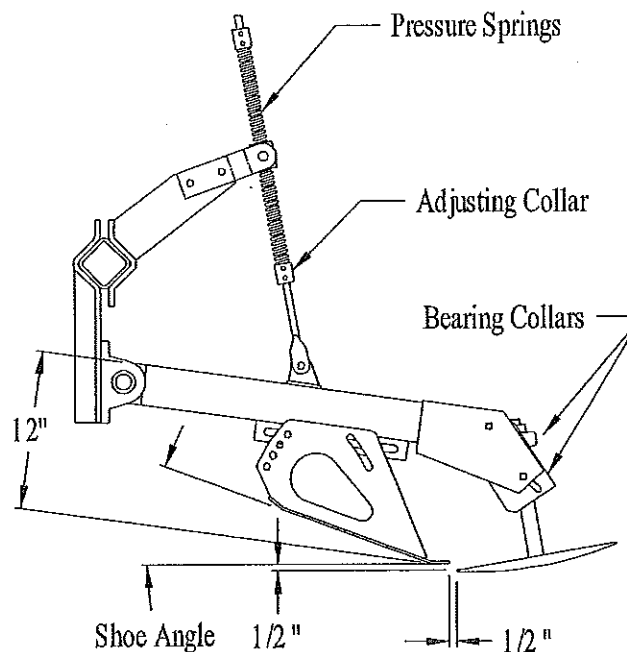

Figure 5.
2. Unpowered Disk Scalper (Figure 5):
- Adjust the shoe angle so the bottom lip of the shoe is level when touching the ground and the bottom of the shoe is approximately 12" from the top of the scalper arm (see Figure 5).
- Adjust the disk to have a slight angle toward the shoe as illustrated in Figure 5. Remove the top bolt holding the disk assembly and only loosen the bottom bolt. Move the disk to the desired angle, and then reinstall the bolts (tighten securely). **Note: The relationship between the tip of the disk and the shoe will remain the same when the angle of the disk is changed.**